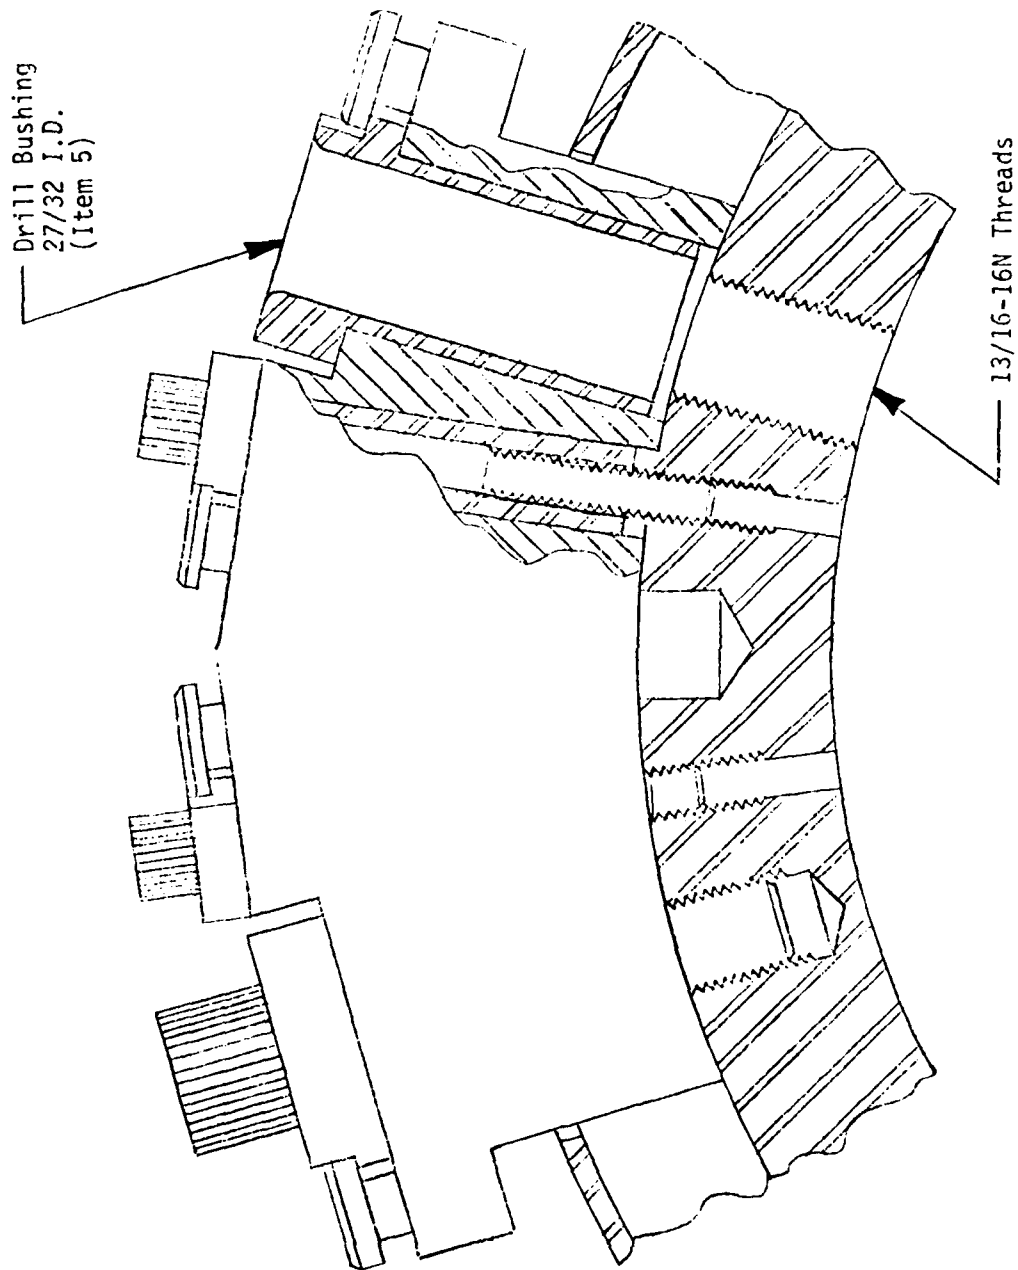

Figure 4. Keensert installation: First Keensert installation hole drilled and tapped.
26. Use the 13/16-16 UN tap (Item 17) and tap handle (Item 19). Extend the tap through the drill bushing and tap completely through the missile center ring (see Figure 4).